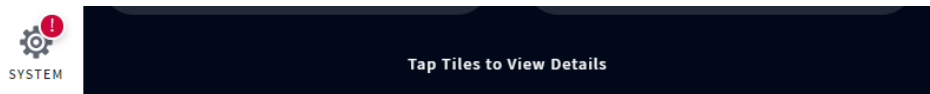

Fig. 15.10
- 2. Tap on the UPDATES tab. In this example, the Base Station option requires attention. See Fig. 15.10.